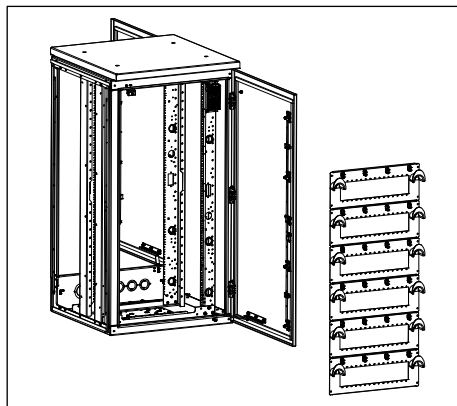

Figure 6 Remove Rack Components
5. For Bays 2, 3, and 4, remove all the LGX panels from the front and rear rack rails (Figure 6).